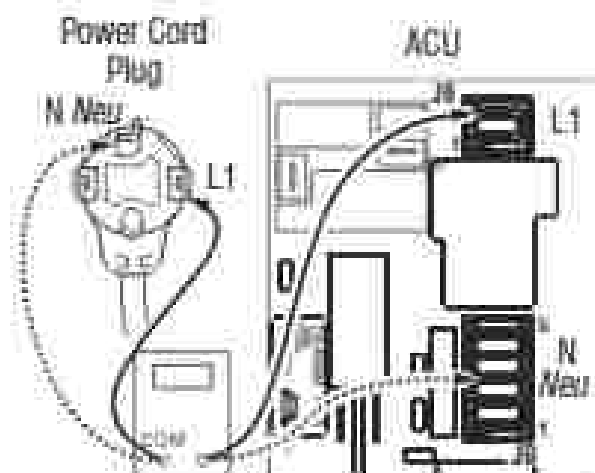

Figure 3 • Plug-to-terminal connections for electric dryer
4. With an ohmmeter, check the continuity from L1 and N plug terminals of the power cord to the terminals for L1 and N on the ACU. See Figure 3, page 3-11.